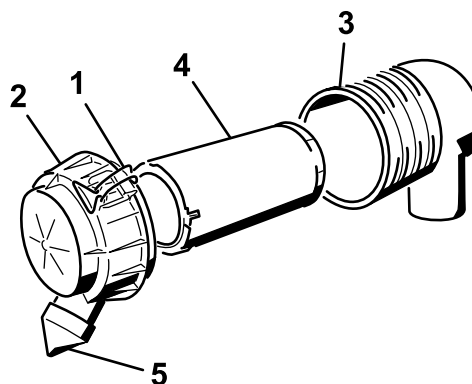

Figure 20
3. Release the latches on the air cleaner and pull the air-cleaner cover off the air-filter body (Figure 20).
6. Gently slide the filter out of the air-filter body (Figure 20).
8. Carefully install the filter (Figure 20).
9. Install the air-cleaner cover with the dust cap oriented downward and secure the latches (Figure 20).